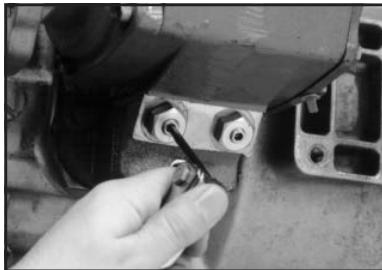

Figure 18
7. There are two (2) large drilled and tapped holes on the 272M and 272N Series PTO housing (**Fig. 18**). These two holes come with plugs installed.